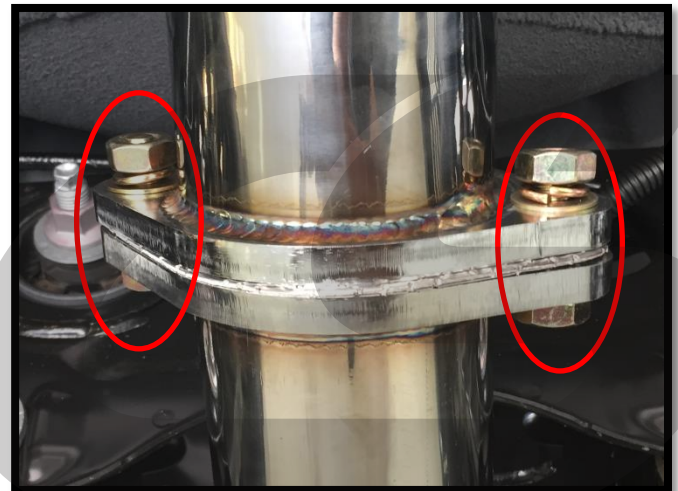

Figure 6c
- b) Attach rear flange of the CorkSport Midpipe Rear Section to the CS axleback. Place a supplied 80mm gasket between the two flanges and use supplied hardware to attach the two pipes. Only hand tighten for now. (Shown in Figure 6c).